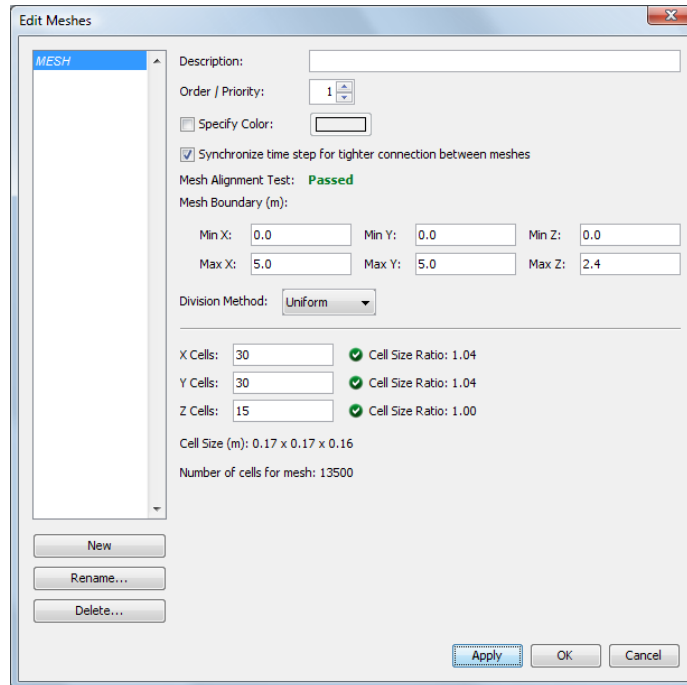

Figure 5.5. Creating the mesh
3. Click **OK** to create the new mesh. The boundary dimensions will automatically be set to the correct size based on the two vents (Figure 5.5).